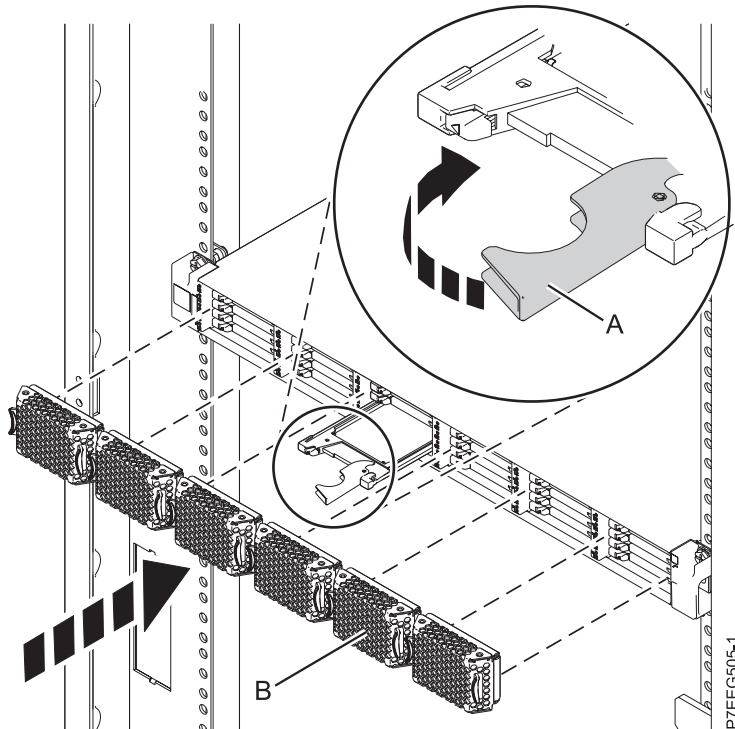

Figure 12. Installing a solid-state drive in the ED/R1 PCIe storage enclosure
1. With the handle in the unlocked position, align the solid-state drive with the guide rails in the enclosure. See Figure 12 on page 22,
3. Rotate the handle **(A)** to the locked position, as shown in Figure 12 on page 22.